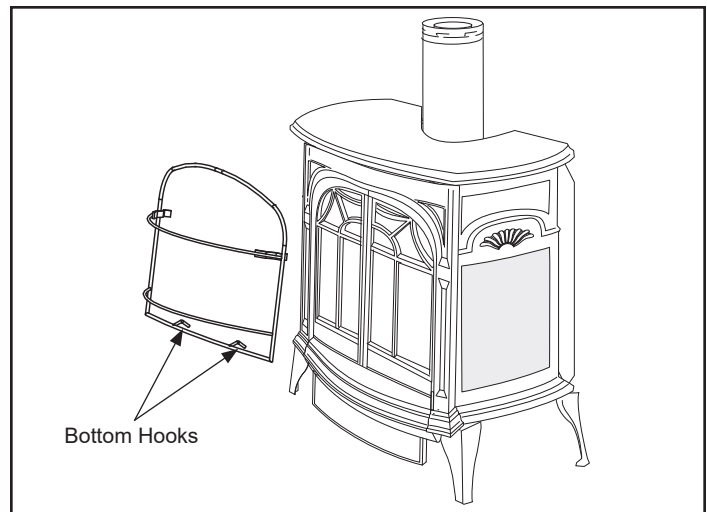

Figure 3.32 - Install safety barrier screen.
2. Place the two bottom hooks over the bottom edge of the stove opening, Figure 3.32.